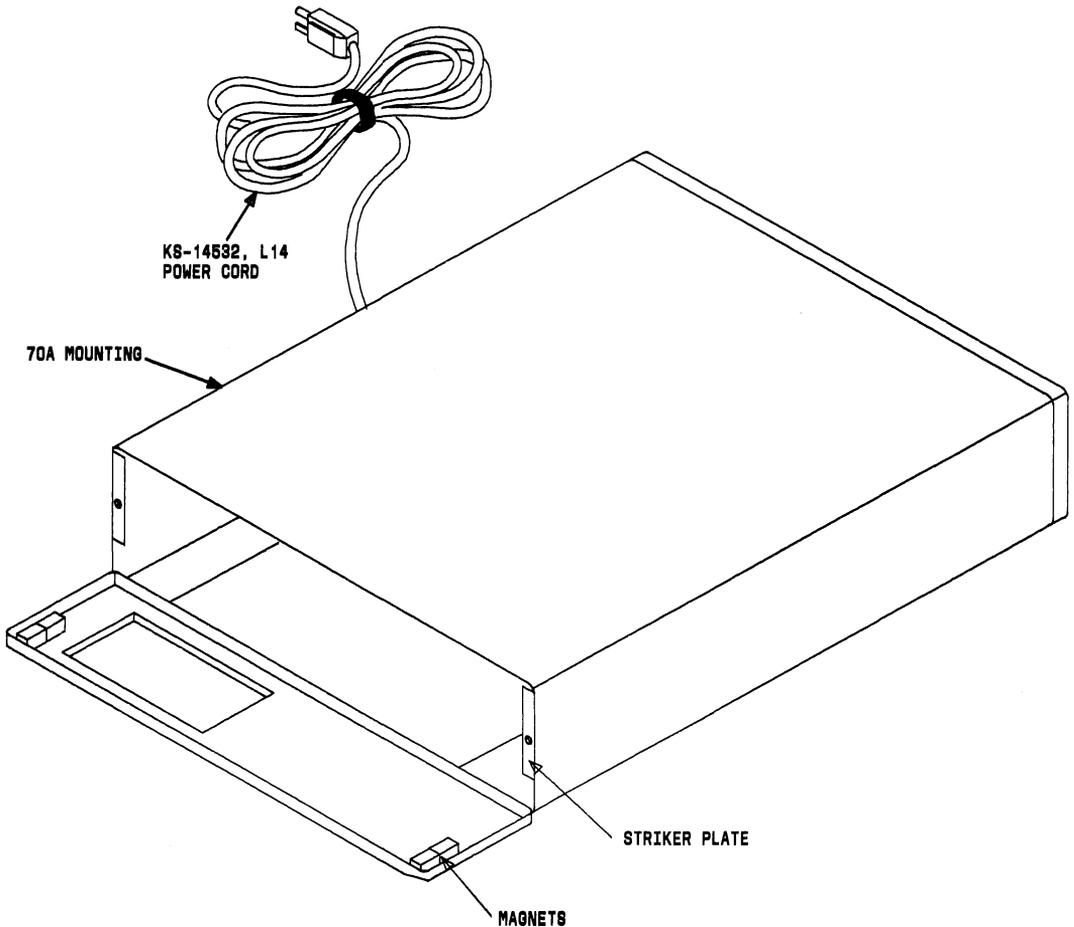

Fig. 4—70A Stand-Alone Mounting With Front Cover Open
2.09 The PDM circuit pack can be mounted individually in a 70A stand-alone mounting (Fig. 4) which is 12.05 inches long, 8.69 inches wide, 2.75 inches high, and weighs approximately 7 pounds with circuit pack installed.